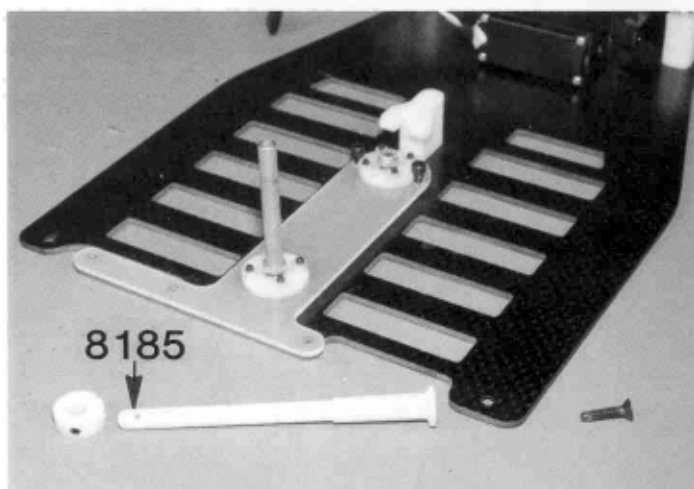

Fig. 24
□ **Figs. 24 & 25**— Install the #8185 rear body mounts on the chassis using the allen screws. Install the body mount collars with a set screw.